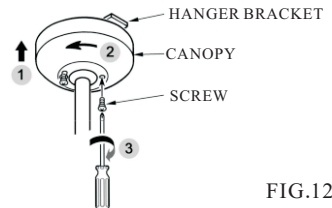

FIG.12
- Mount the canopy on the hanger bracket and tighten the screws. (See fig. 12)